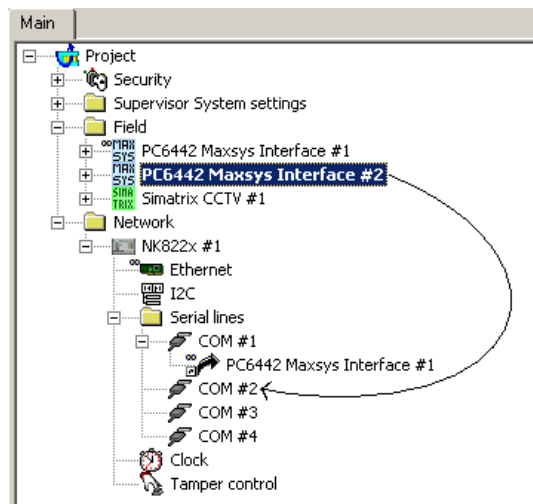

Fig. 17 Link MAXSYS to the NK8000 network
3. Drag and drop the MAXSYS node to the network COM port (see Fig. 17).